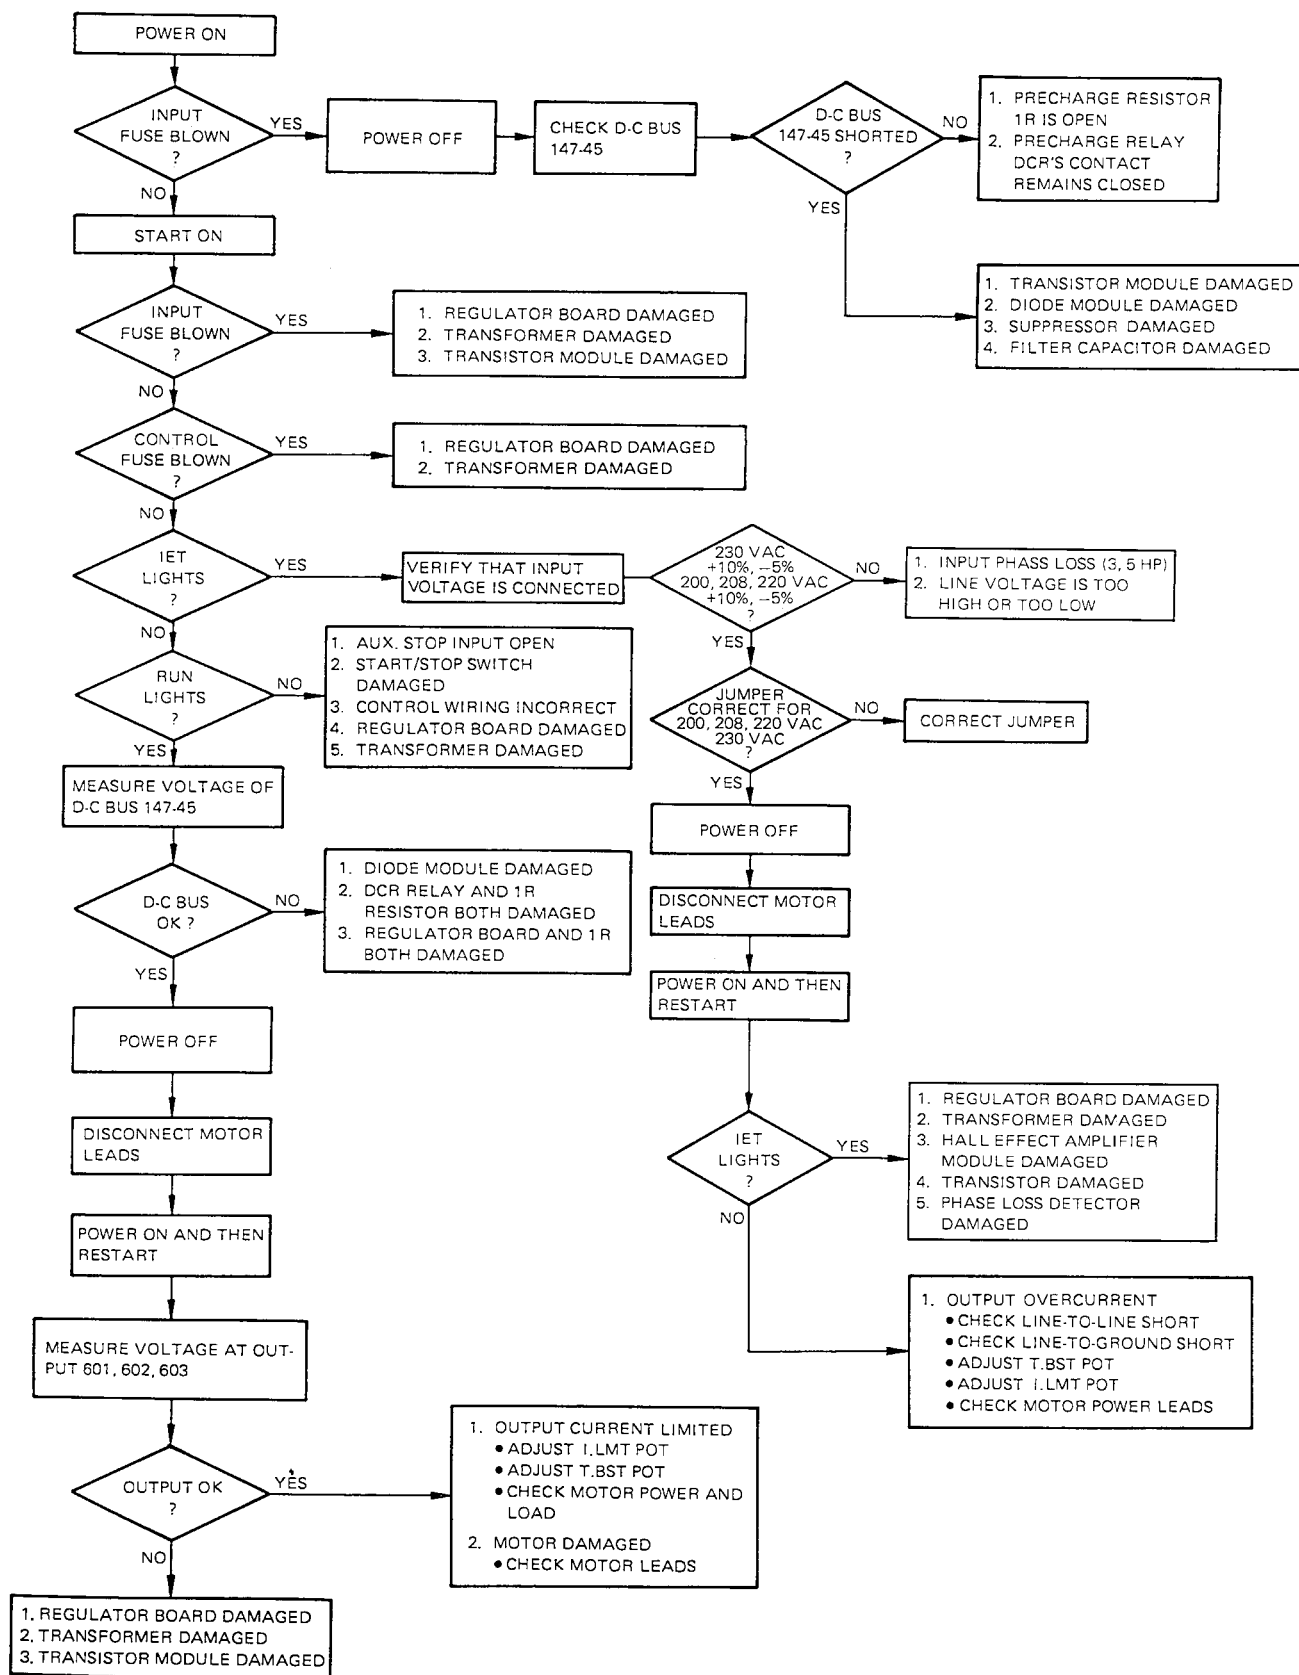

Figure 4-1. Motor will not run.
1. Motor will not run (**Figure 4-1**), which includes the following symptoms: